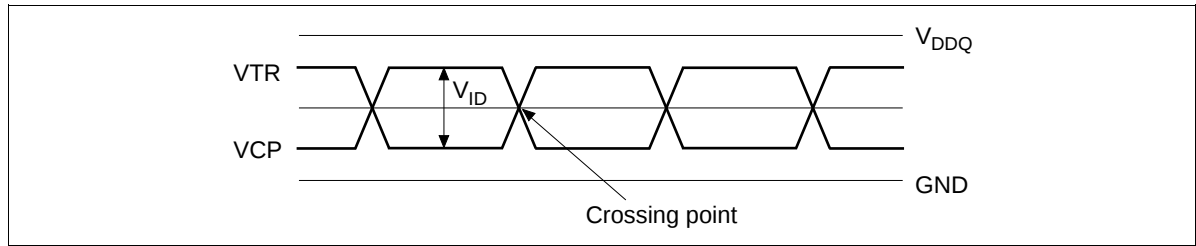

Figure 1-1 Differential input levels
- 3. Differential cross point voltage is expected to track variations of  $V_{DDQ}$  and is the voltage at which the differential signals must be crossing. (See figure1-1)